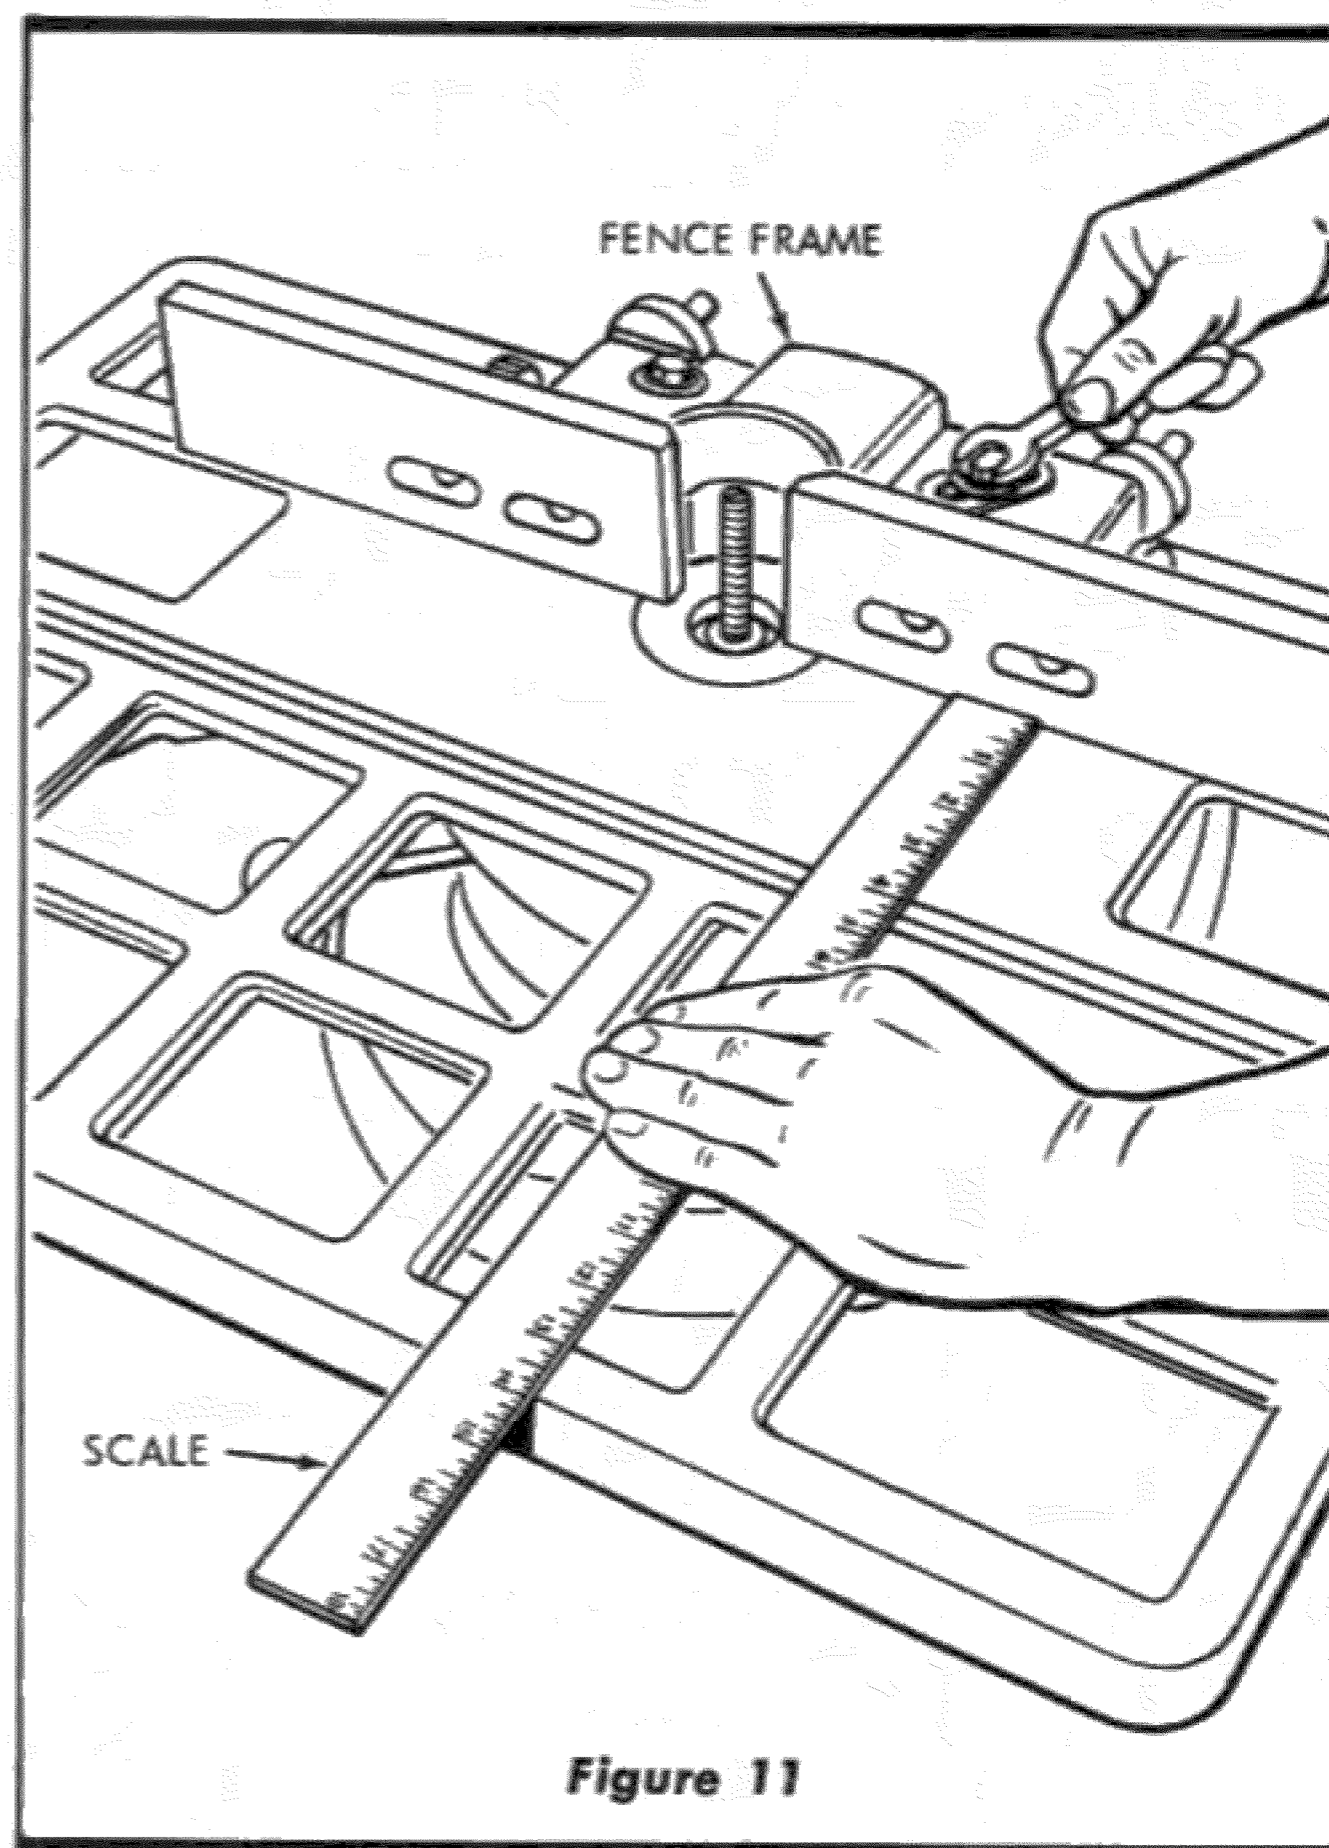

Figure 11
2. Loosen fence attaching bolts and shift the complete fence assembly until both fence faces are the same distance from the miter slot. These measurements must be made accurately. (See figure 11.)